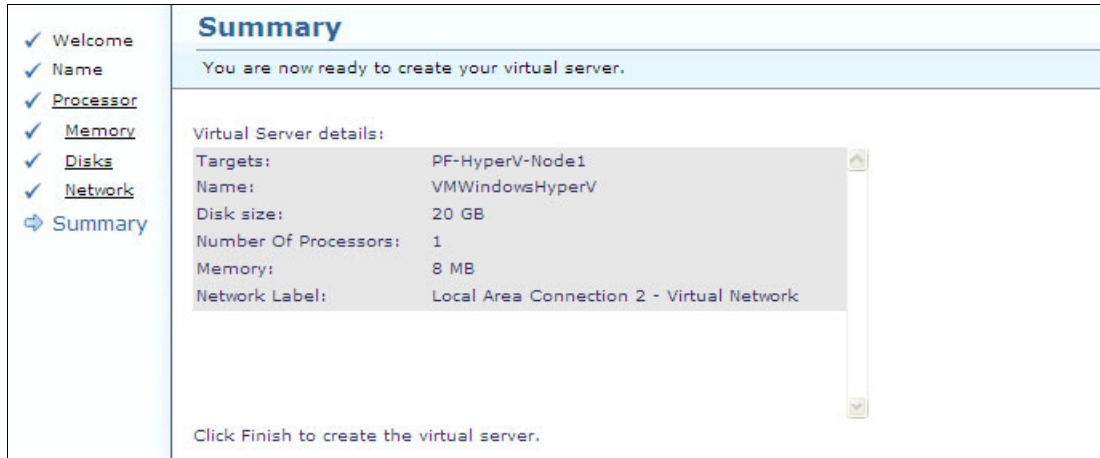

Figure 12-23 Virtual server configuration summary
9. Review your virtual server summary configuration and click **Finish**, as shown in Figure 12-23.